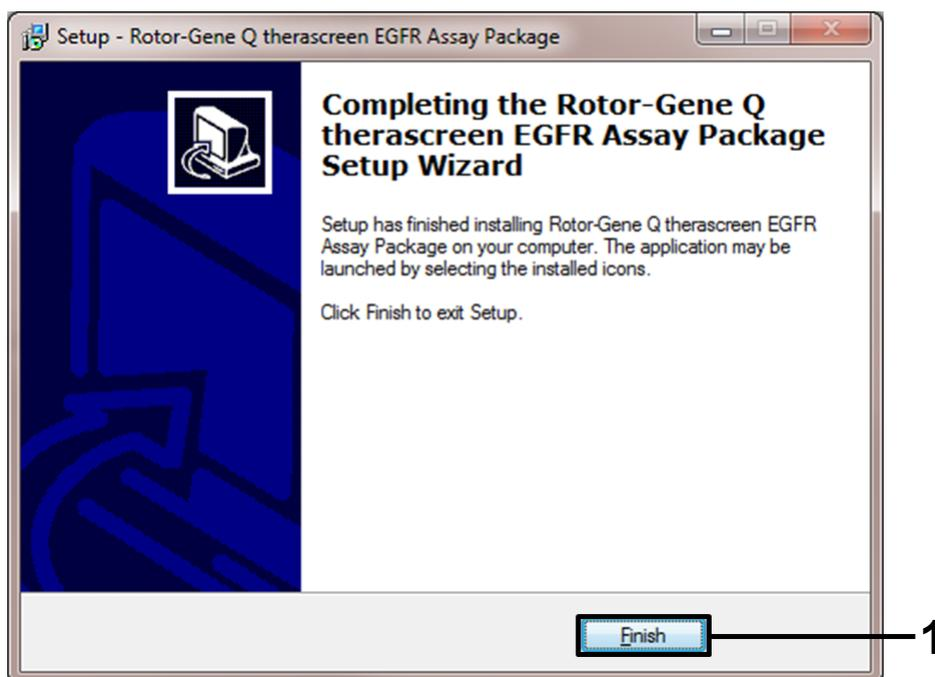

Figure 43. Completing the setup wizard (1 = “Finish” button).
6. The setup starts automatically. When installation is complete, a final “Setup Wizard” dialog box opens. Click “Finish” to exit (Figure 43).